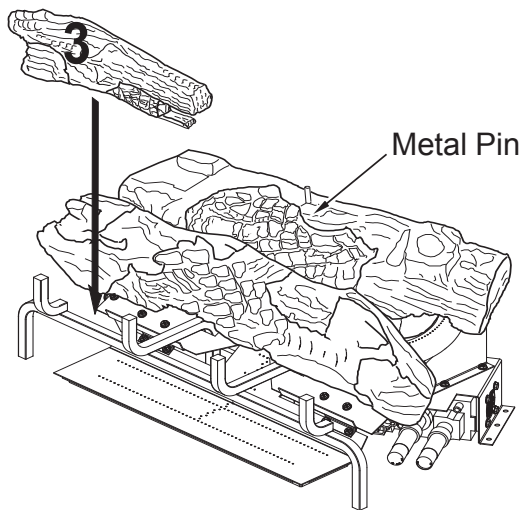

Figure 31 - Installing Log # 3
3. Place the front left log (#3) onto the base assembly between the middle log and the grate. The back of the front left log will rest against the front of the middle log. The notch in the end of the front left log will fit around the grate bar. See **Figure 31**.